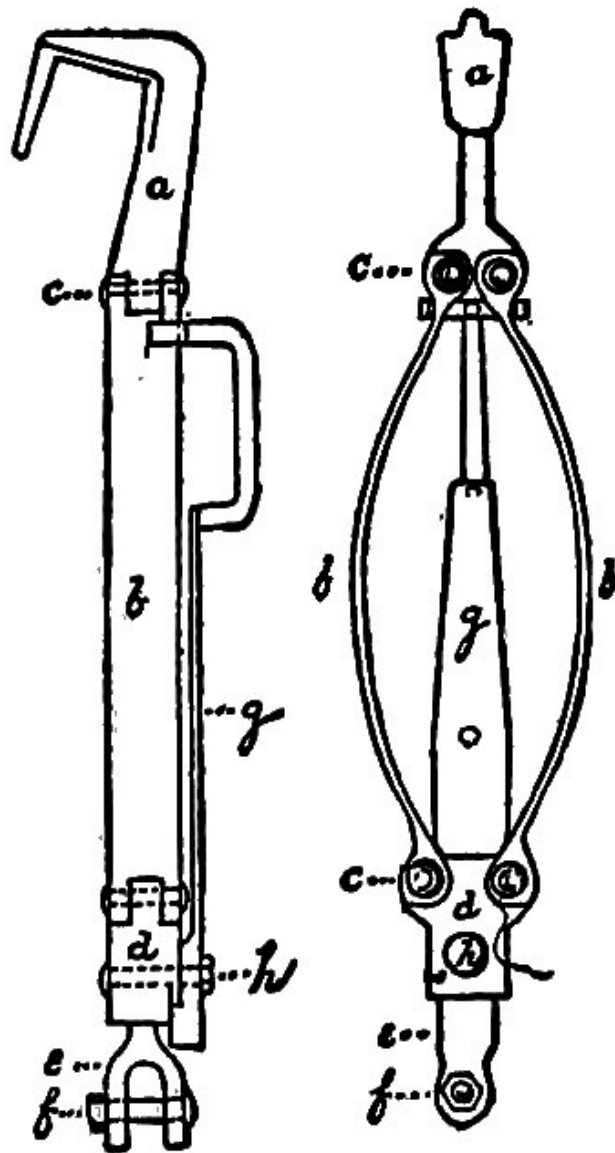

FIG. 59.
Bow-brake (2), Fig. 59, consisting of shoe-piece (*a*), bow-springs (4) (*b*), bow-spring nuts and bolts (4) (*c*), attachment-socket (*d*), and the attachment consisting of clevis (*e*), clevis-bolt and nut (*f*), locking-lever (*g*), locking-bolt and nut (*h*).